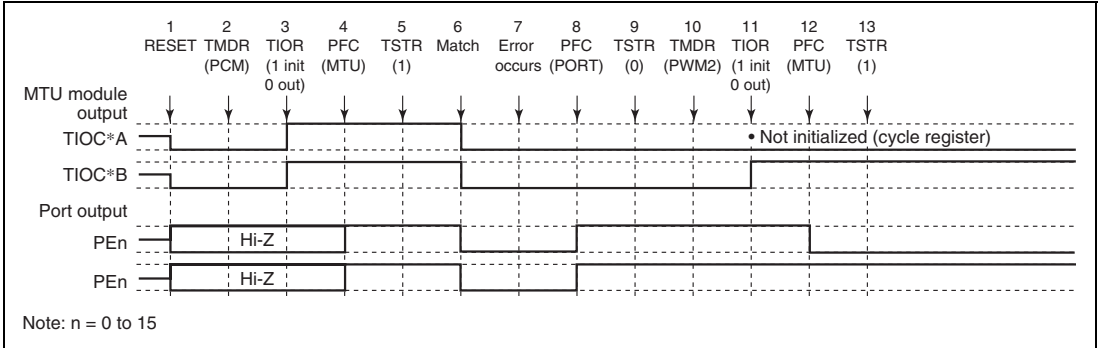

Figure 8.102 Error Occurrence in Phase Counting Mode, Recovery in PWM Mode 2
(19) Operation when Error Occurs during Phase Counting Mode Operation, and Operation is Restarted in PWM Mode 2: Figure 8.102 shows an explanatory diagram of the case where an error occurs in phase counting mode and operation is restarted in PWM mode 2 after re-setting.